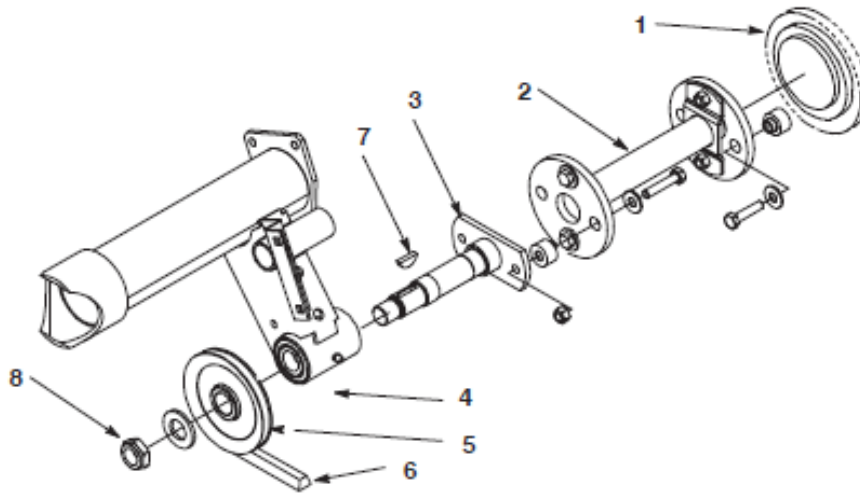

Figure 7
8. Insert the jackshaft into the jack shaft support (Fig. 7).
9. Reinstall the Woodruff key to the jack shaft (Fig. 7).
10. Reinstall the pulley to the jack shaft (Fig. 7).
11. Secure the pulley to the jack shaft with the previously removed flat washer and the locknut (Fig. 7). Torque the nut to 100–130 ft-lb .
12. Secure the rear drive shaft coupling to the jack shaft assembly with the (2) capscrews, washers, spacers and nuts previously removed (Fig. 7).
13. Secure the front drive shaft coupling to the engine pulley with the (2) capscrews, washers, and spacers previously removed (Fig. 7).